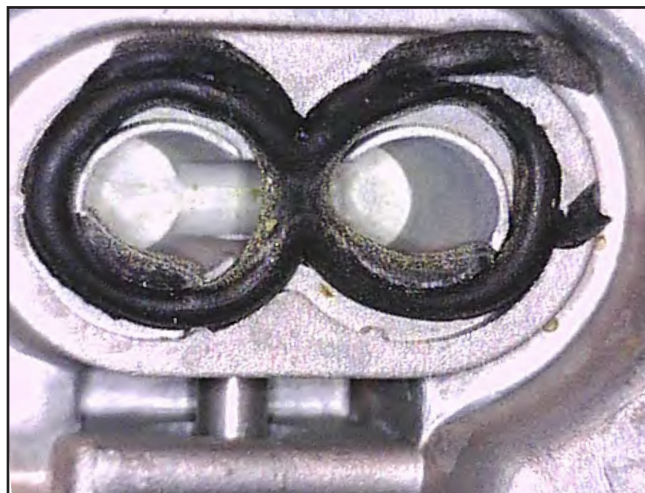

Figure 10
2. Remove and inspect the o-ring gaskets for cuts or damage, then discard. An example of damaged o-ring gaskets is shown below (Figure 10).